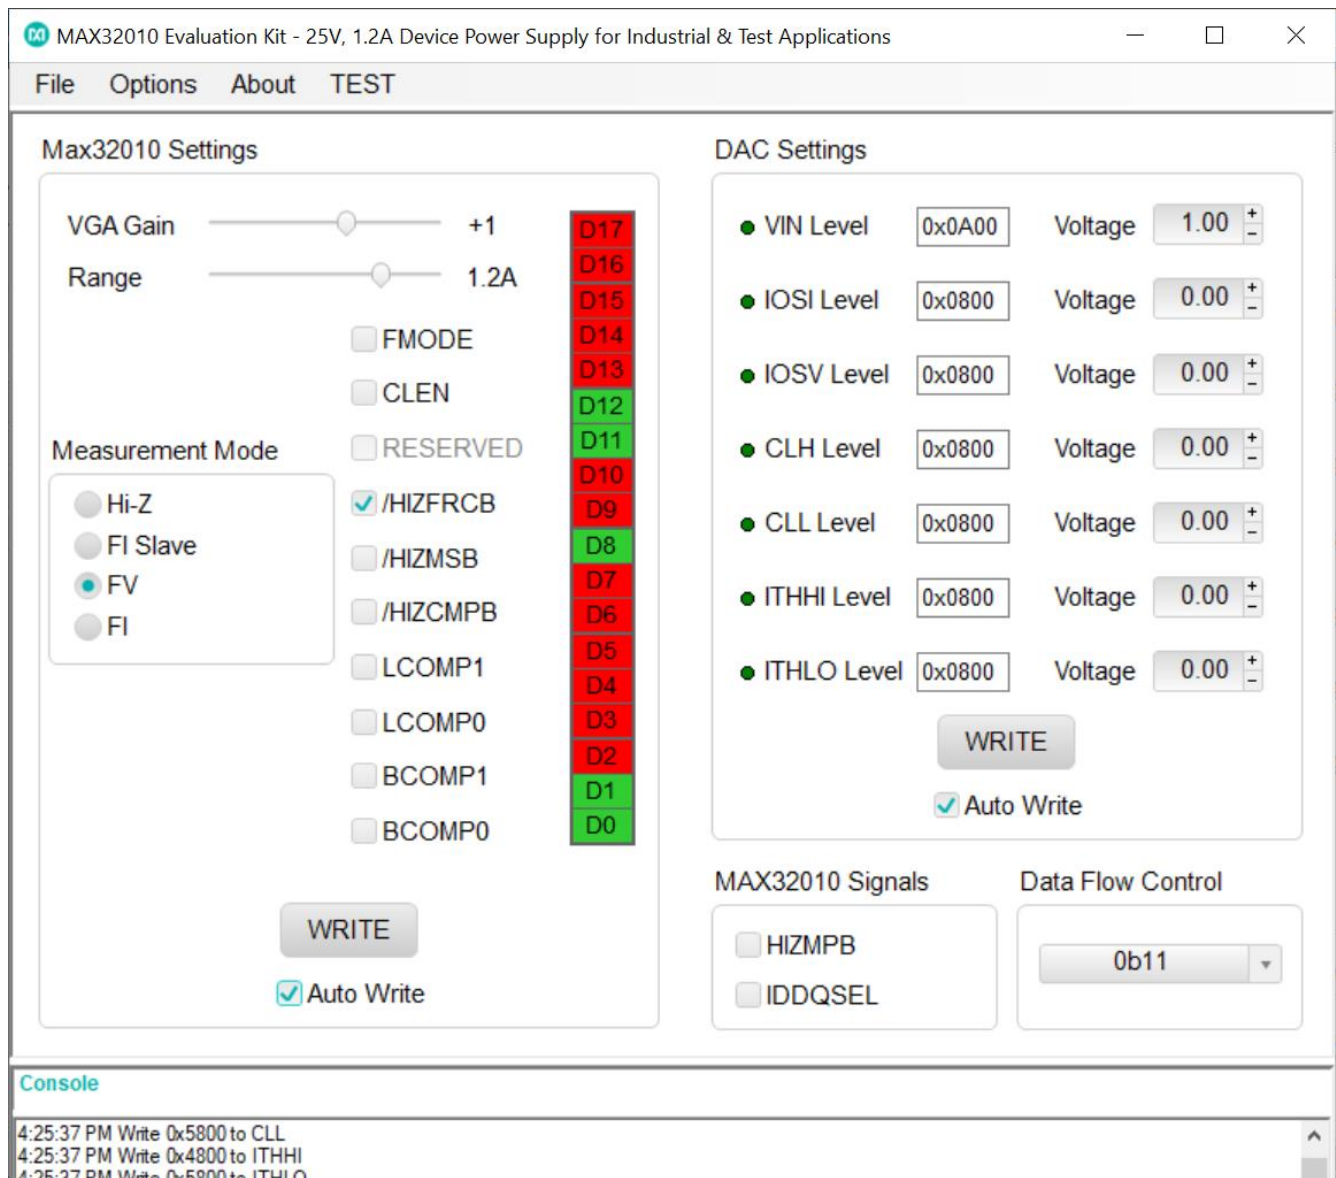

Figure 1. MAX32010 EV Kit Quick Start Settings
- 5) Start the MAX32010 EV kit software by opening its icon in the **Start | Programs** menu. The EV kit software main window appears, as shown in Figure 1.
- 8) Check that the output voltage at DUT\_NODE is close to +1V. Figure 1 shows the MAX32010 EV kit quick start settings.
The main window of the evaluation kit software is shown in Figure 1.